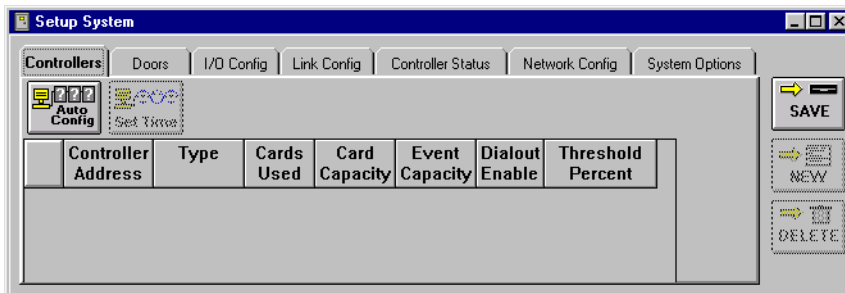

Figure 14: Setup System Window
1. Click the Setup ⇒ System pull-down menu or click the  button on the tool bar. The Setup System window appears (see Figure 14).